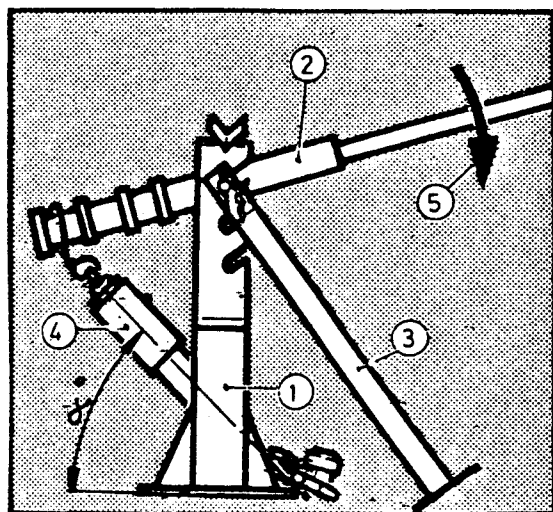

FIGURE 2
- (1)- Position anchor pulling trestle (2/1) with lever tube (2/2), auxiliary props (2/3) and testing device (2/4) according to figure 2.